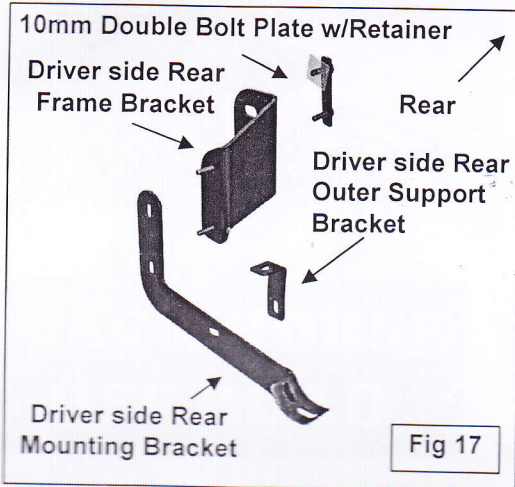
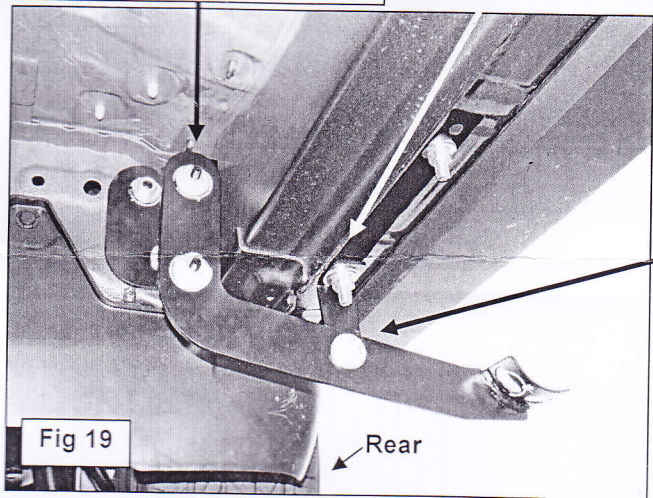

Fig 17
Fig 19
14. Select the driver side rear Frame Bracket. Attach the Frame Bracket to the Double Bolt Plate with (2) 10mm Flat Washers, (2) 10mm Lock Washers and (2) 10mm Hex Nuts, **(Figures 17 & 18)**. Do not tighten hardware at this time. Next, attach the driver side Rear Mounting Bracket to the front of the Frame Bracket with (2) 8mm Large Flat Washers, (2) 8mm Lock Washers and (2) 8mm Hex Nuts, **(Figure 19)**. Do not tighten hardware at this time.
15. Select the driver side "7" Rear Support Bracket, **(Figures 6 & 17)**. Attach the Support Bracket to the rear Bolt Plate with (1) 10mm Flat Washer, (1) 10mm Lock Washer and (1) 10mm Hex Nut, **(Figures 17 & 19)**. Do not tighten hardware. Line up the hole in the Rear Bracket with the "7" Rear Support Bracket. Bolt the Mounting Bracket to the front of the "7" Bracket with (1) 8mm x 30mm Hex Bolt, (2) 8mm x 28mm Large Flat Washers, (1) 8mm Lock Washer and (1) 8mm Hex Nut, **(Figure 19)**. Do not tighten hardware at this time.